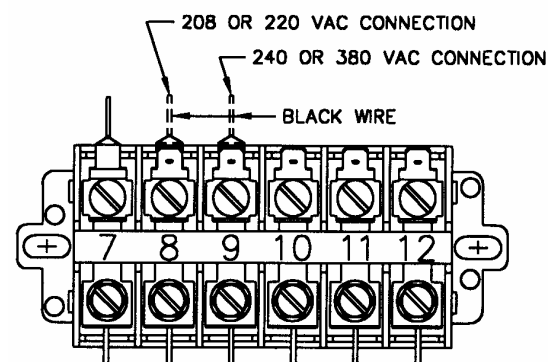

Figure 4-1 – TB1
3. Move the black wire from TB1, terminal 9 to TB1, terminal 8. Be sure the female terminal on the black wire is fully seated on the terminal block tab. See Figure 4-1.